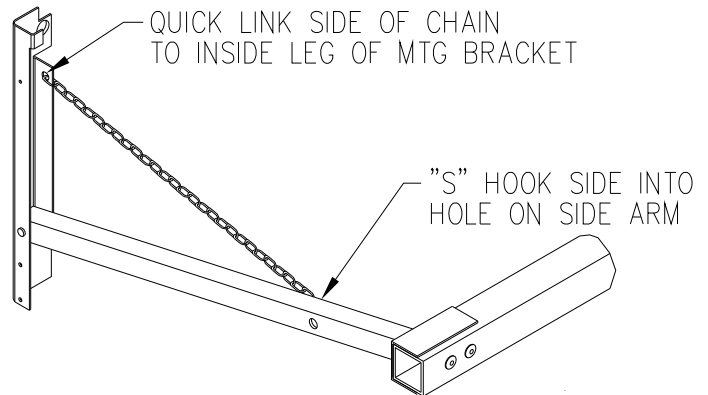

FIGURE 9
4. Install the installation chains on both sides of the canopy frame. First attach "Quick Link" side of the chains to the inside legs of the canopy mounting brackets. (See Figure 9) Next, lift up canopy front bar and attach the "S" hook side of the chains to holes on the inside face of the side arms. The chains hold the front bar up so the canopy cover can be attached.